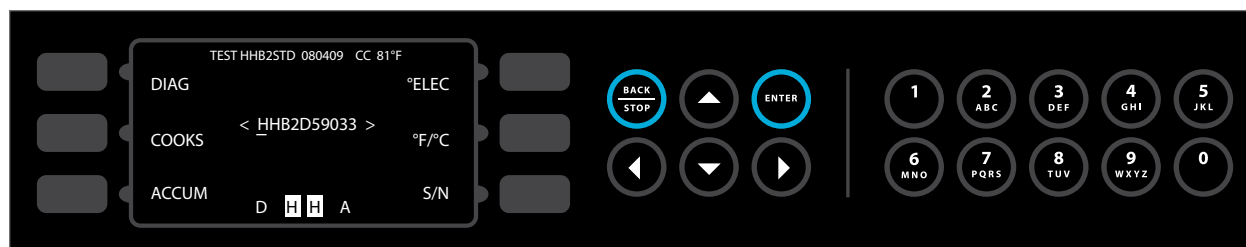

Figure 29: Serial Number Edit
2. To edit the serial number (Figure 29), use the number keys.